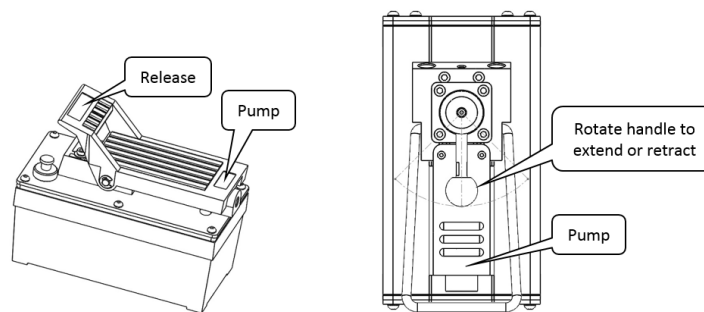

Figure 1
3. Check for leaks in system and repair as needed. Before repairs are made, disconnect air source and application, then release the pressure from the hydraulic system. Do so simply by pressing the pedal or pendant button for three seconds (see figure 1).
4. To build pressure, depress the pedal or pendant button where "PUMP" is located. Operate pump until desired position is reached and/or pressure is obtained (see figure 1).
5. To retract a cylinder, simply press down on the RELEASE valve or pendant button portion of the pump. Fully depressing pedal will LOCK the DETENT feature to "on" (see figure 1).
6. For double acting pumps model "D", to build pressure depress where indicated (see figure 1). When the handle is in the center position, the load will not move even if the pump is running. To actuate the load, start the pump, rotate the handle in either direction to extend or retract the load. Move the handle back to the center position and release the treadle to stop the pump. Always move the valve handle to the center position before stopping the pump.